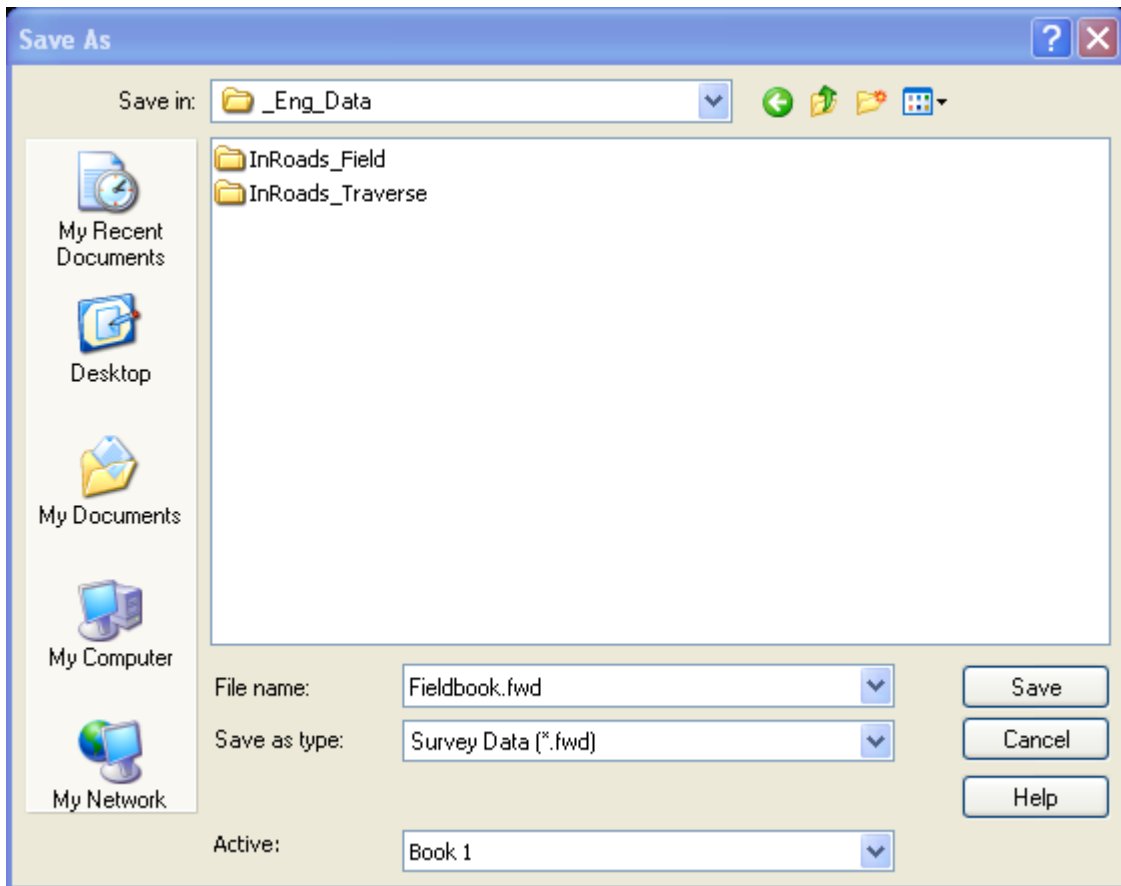

Figure 3-11 InRoads Save As Dialog Box
- L. The Save As dialog appears Figure 3-11, select the Save as type: **(*.*.fwd)** and enter a file name then click **Save**. This saves the data to a file and the next day you will load the .fwd and either continue with the edit process or import more field data or both. Remember to save the .fwd when ever exiting InRoads Survey.